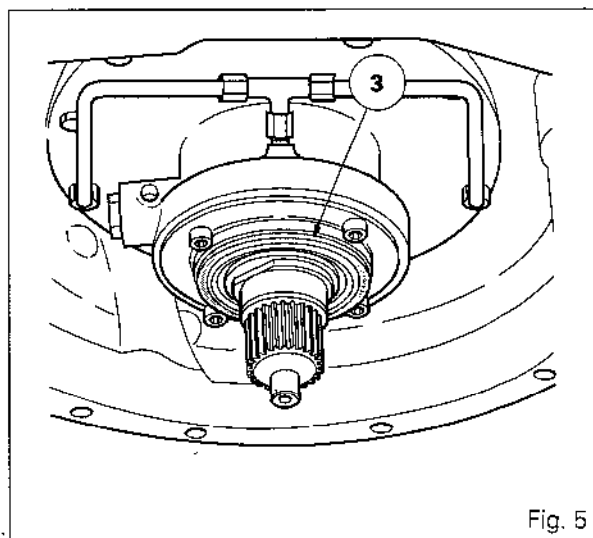

Fig. 5
16. Check that shims (3) (Fig. 5) are installed.
21. Check that shims (3) (Fig. 5) are installed.